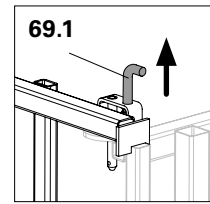

Fig. A13.09a
1. Pull bolt (69.1) upwards and hold. (Fig. A13.09a)